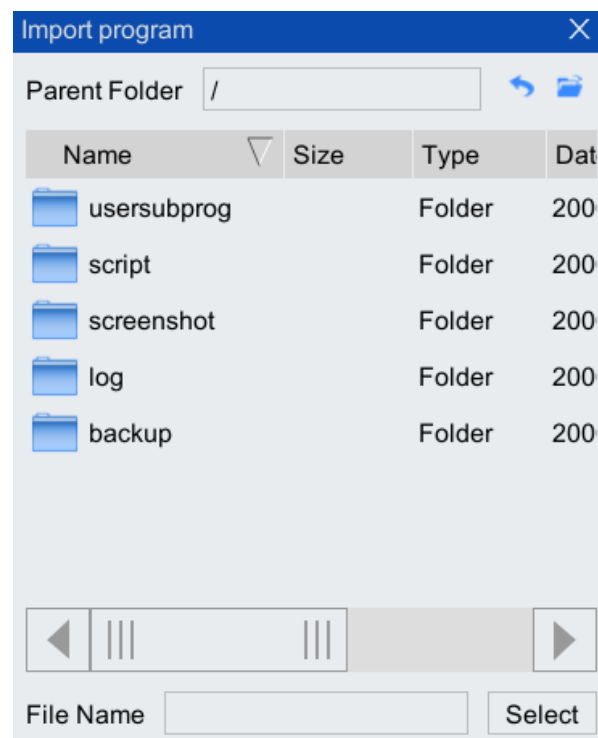

Figure 7-8 "Import configuration" list box
Step1. On the main interface of the teach pendant, click "File > Restore Backup > Configuration File" option, and the "Import Configuration" list box as shown in Figure 7-8 will pop up.